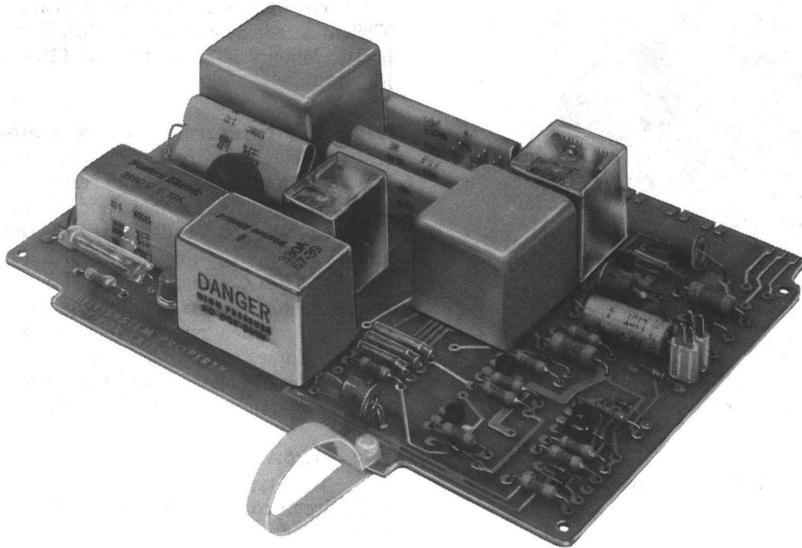

Fig. 18—120B Interconnecting Unit
**2.18 120B Interconnecting Unit**—An 8-inch circuit pack used to connect a customer-provided KTS to a Bell System CO or PBX line on a 2-wire basis. Mounts in a 604-type or 615A panel. (See Fig. 18.)